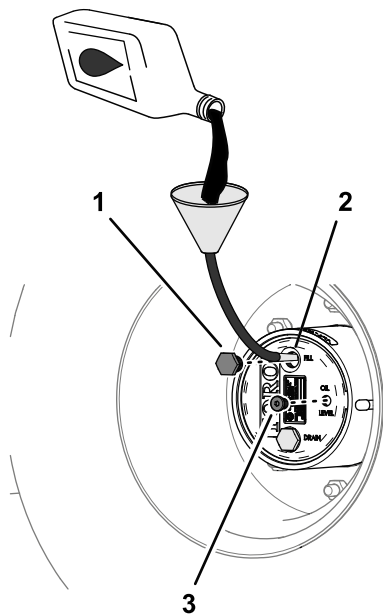

Figure 89
4. If the lubricant level is low, remove the fill plug and add the specified lubricant until it begins to flow out of the check-plug hole (Figure 89); refer to Planetary-Gear-Drive Lubricant Specification (page 66).
6. Install the fill plug and the check plug (Figure 89).
1. Through the fill-plug hole, slowly add the specified gear lubricant; refer to Figure 89 in Checking the Planetary-Gear-Drive Lubricant (page 66).
3. Install the fill plug and check plug; refer to Figure 89 in Checking the Planetary-Gear-Drive Lubricant (page 66).